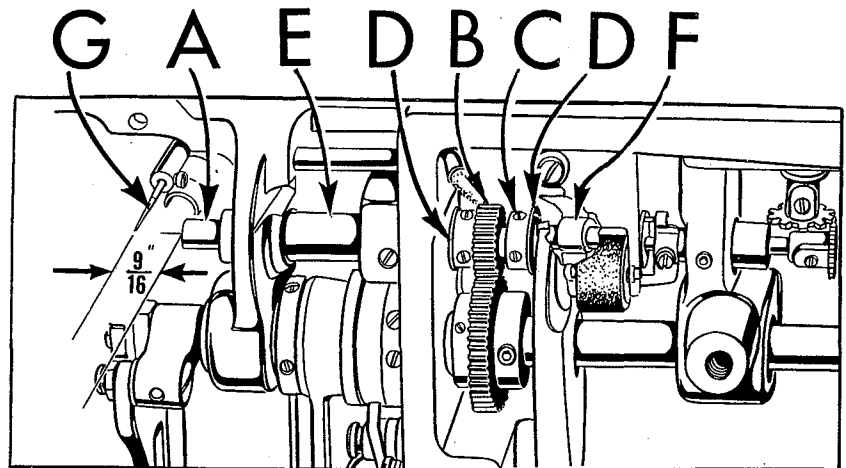

Fig. 22
The hook shaft (A, Fig. 22) is held in position by the pinion (B) and collar (C) thrusting against hard steel washers (D) between the long left hand bushing (E) and the short right hand bushing (F).
Before reassembly, the end of the hook shaft, its spiral groove and the pump disc should be thoroughly cleaned. Remove any end play found in the hook shaft and determine that the $35/64$ inch dimension has been maintained (Fig. 22).